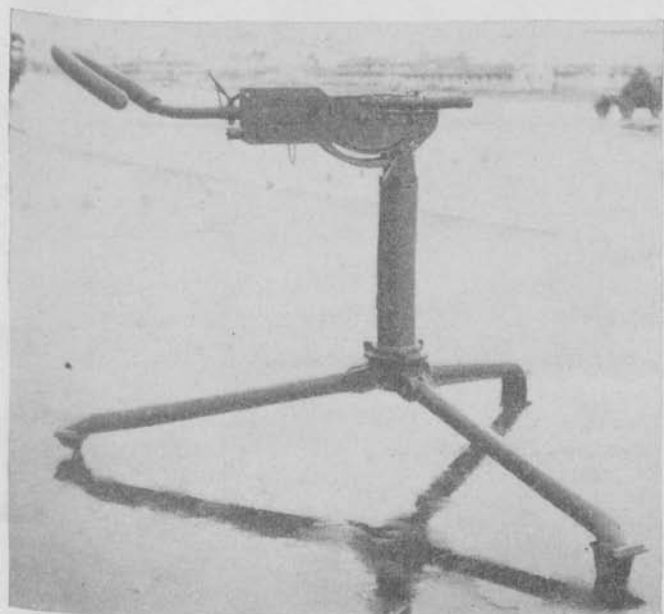

FIGURE 55.—M2A1 mount.
■ 90. DESCRIPTION.—The mount consists principally of the pedestal, tripod legs, cradle, pintle, and back rest. (See fig. 55.) It may be rotated in azimuth throughout 360° and elevation limits vary from a minimum of -15° to a maximum of about +69°. A spring recoil mechanism is incorporated in this mount to reduce the intense vibration caused by the firing of a .50 caliber machine gun. This mechanism must be kept properly adjusted. When it is not properly adjusted the gunner is subjected to considerable physical shock and is unable to track the target with any accuracy. The mount is equipped with a trigger lever to be used with a side plate trigger. Improper adjustment of this mechanism and of the recoil mechanism has a serious effect on the rate of fire and on the size of the cone of fire. Adjustments of the recoil and trigger control mechanisms should be made only by designated trained machine-gun personnel.